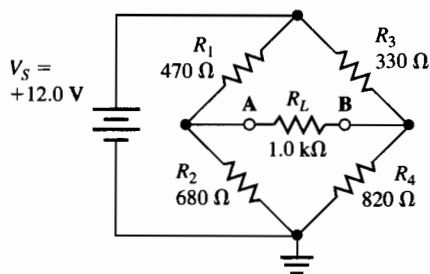

Figure C-6-4
14. Consider the Wheatstone bridge shown in Figure C-6-4. Apply Thevenin's theorem to the bridge and draw the equivalent Thevenin circuit. From the Thevenin circuit, determine the current in R_L .